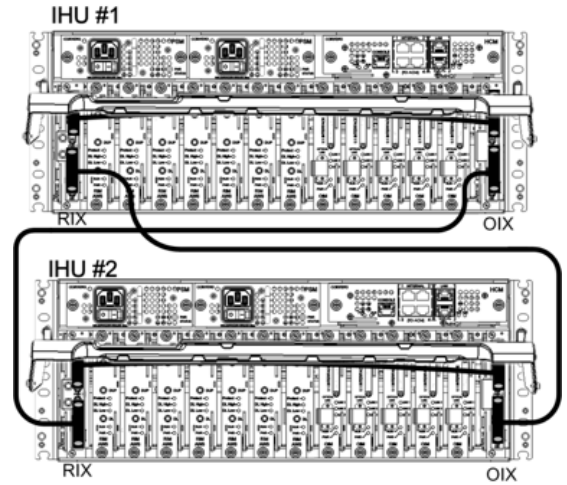

Figure 5: RIX to OIX Connections - Two IHUs
- Connections to additional IHU (see Figure 5):